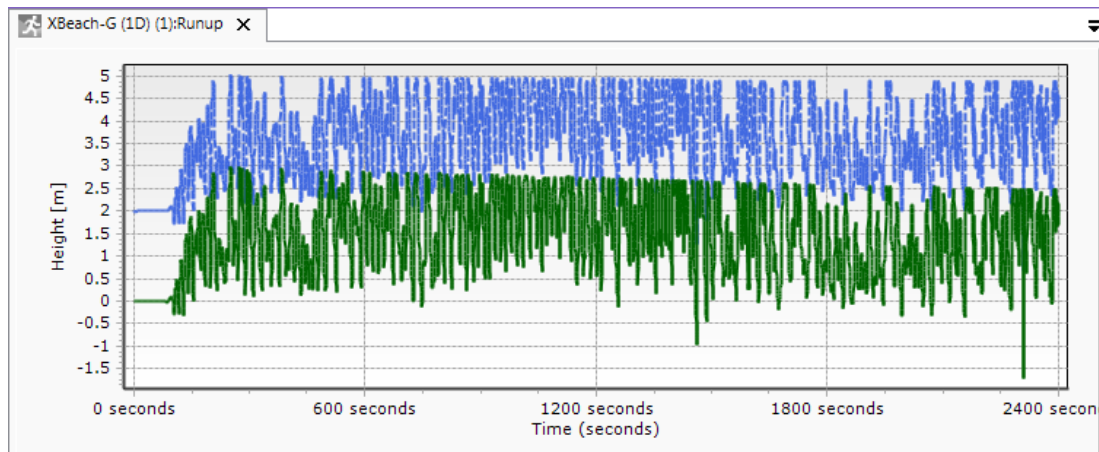

Figure 6.5: Example of the Runup output document view
The runup output item and associated runup output document view (Figure 6.5) presents time series of the absolute vertical position of the waterline at the beach (Z) and the wave run-up elevation above the tide and surge level (R) in the runup chart at the top of the runup output document display. If the duration of the simulation is sufficient to do so, the runup output document display will display the 2% exceedence of the absolute vertical position of the waterline ($Z2\%$) and the 2% exceedence of the wave run-up elevation above the tide and surge level ($R2\%$).